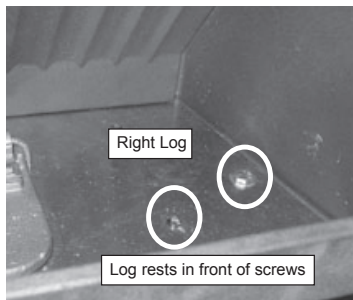

Figure 23.3
2. Place the right log in front of the 2 screw heads in the firebox (**Figures 23.3 and 23.4**).